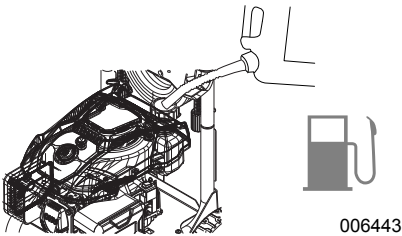

Figure 2-8. Add Recommended Fuel
- See Figure 2-8. Clean area around fuel cap and remove cap slowly.